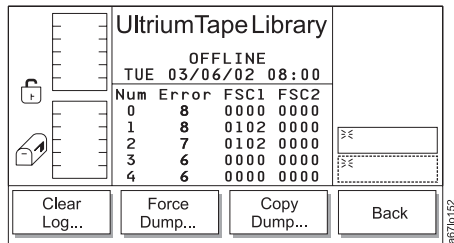

Figure 4-55. Drive Error Log Options Submenu
2. Press the button below the **Options** softkey. The Drive Error Log Options Submenu displays (see Figure 4-55).
5. To return to the Drive Error Logs Options Submenu (see Figure 4-55), press the button below the **OK** softkey. To return to the Main Menu, press the button below the **OK → Back → Cancel → Back** softkeys. Continue to press the button below the **Back** softkey until the Main Menu displays.